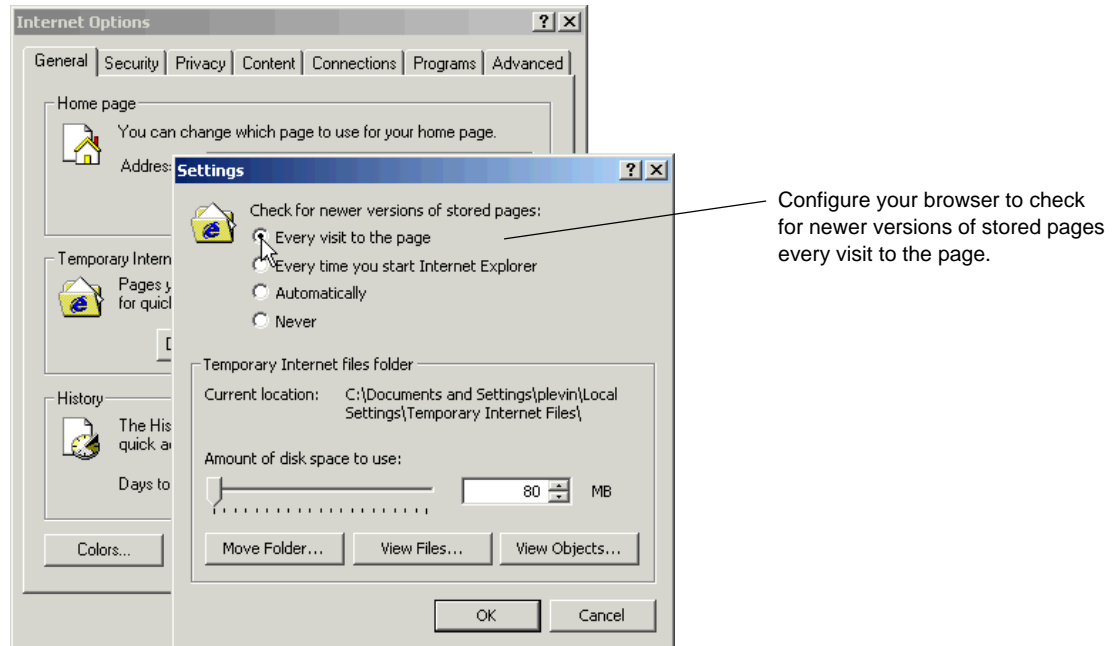

FIGURE 1 Configuring Internet Explorer
3. Click **Every visit to the page** under “Check for newer versions of stored pages,” as shown in Figure 1 on page 3.